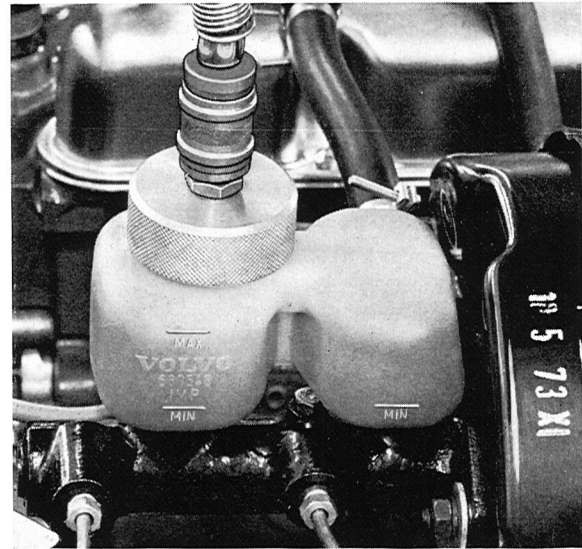

Fig. 5-56. Connecting bleeder unit
3. Use a special container cap when bleeding, see Fig. 5-56. This cap can be obtained from AB Volvo Service Department. Connect the bleeder unit according to the instructions of the manufacturer. The working pressure is 2 kp/cm² (28.4 psi). The type of bleeder unit which may be used is shown in Fig. 5-56.